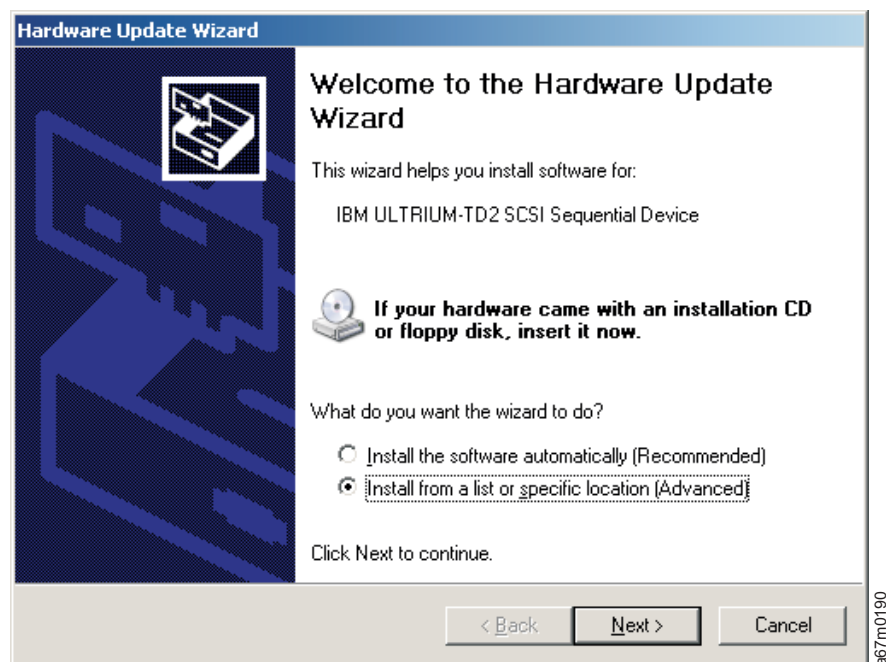

Figure 36. Hardware Update Wizard Welcome Screen
19. A Hardware Update Wizard opens. Select **Install from a list or specific location (Advanced)** and click Next >. See Figure 36.